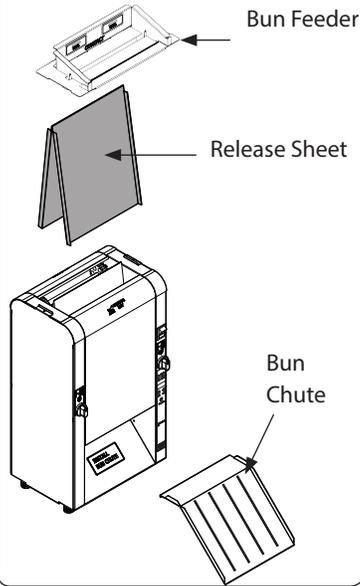

Figure 2
1. Open the front and rear Conveyor Covers (Figure 2)